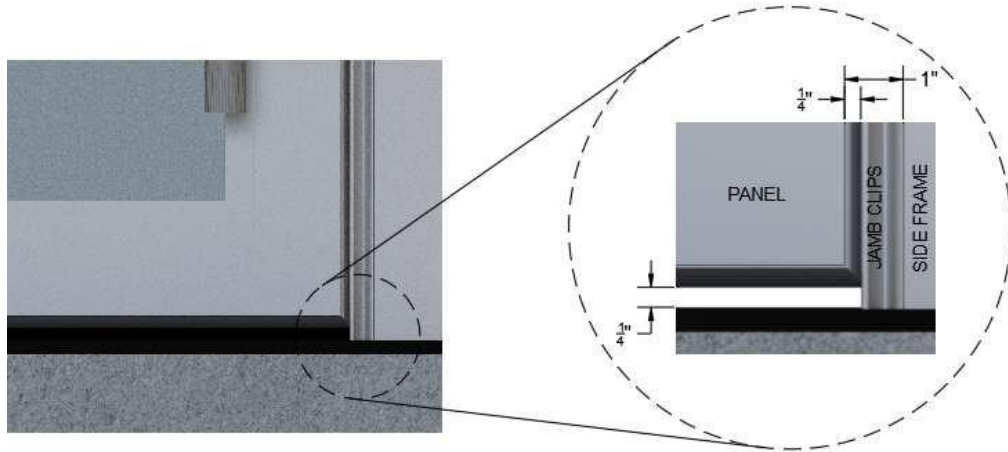

FIG. 22
1. Once the panel is supported and the unit is fastened, measure the distance between the threshold and the bottom panel clip. The distance should measure approximately $\frac{1}{4}$ ". The measurement on the top and sides should also measure approximately $\frac{1}{4}$ " from the edge of the clip to the panel OR 1" from the panel to the side frame. **(Fig.22)**